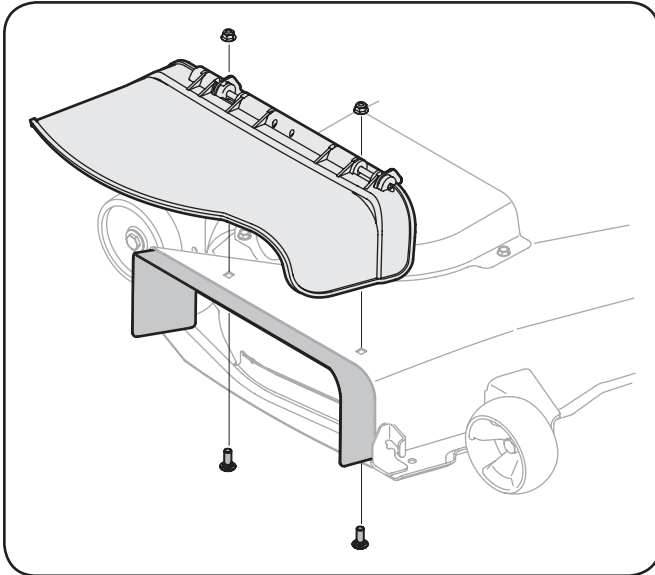

Figure 4-19
3. Install the chute discharge plate to the bottom side of the deck opening, as seen in Figure 4-19, using two carriage bolts supplied in hardware pack 689-00163.